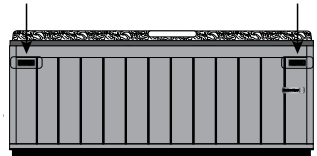

Figure 11.9a
1. Locate the EZ Access Door locking latches, on the top corners of the front panel, Figure 11.9a.